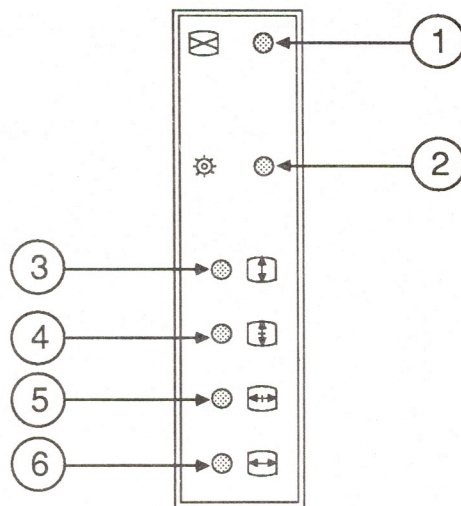

FIGURE 2
- Focus (Figure 2, #1)
- Subbrightness or cutoff (Figure 2, #2)
- Vertical size or height (Figure 2, #3)
- Horizontal size or width (Figure 2, #6)
The horizontal hold (Figure 2, #4) and vertical hold (Figure 2, #5) adjustments are set at the factory and normally do not need adjusting. Only adjust these controls when symptoms described in the Diagnostics section warrant it.